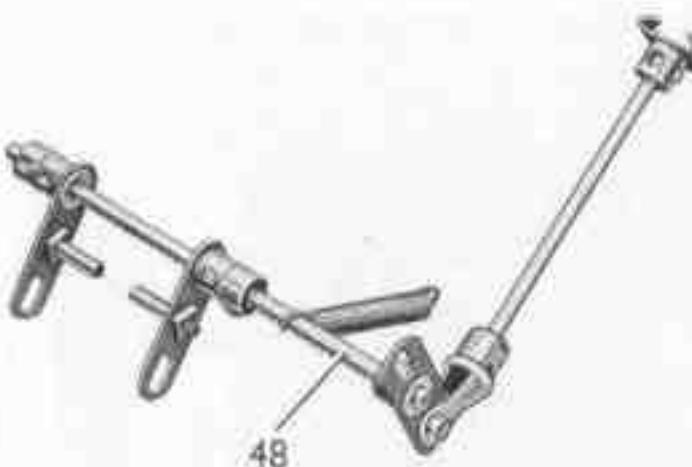

FIG. 8. The clutch pedal and release lever unit removed from the chassis
The clutch pedal is a Slide Piece on a  $4''$  Rod that passes through an Obtuse Angle Bracket bolted to one of the  $5\frac{1}{2}'' \times 3\frac{1}{2}''$  Flat Plates of the chassis. The lower end of the Rod carries an End Bearing, and this pivots on a  $\frac{1}{2}$ " Bolt passed through a Double Arm Crank on a  $5''$  Rod (48) (Fig. 8). This Rod is held by Collars in Angle Brackets bolted to the Girders (18) of the engine unit, and it carries two Cranks fitted with Threaded Pins that engage the groove in the Socket Coupling (26).